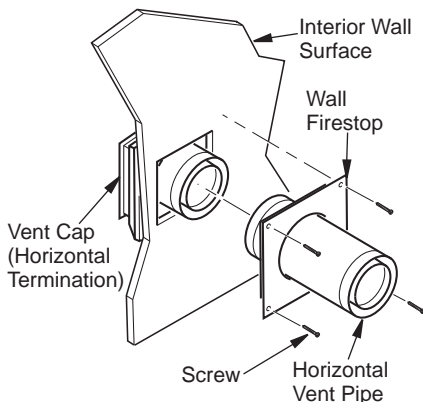

Figure 12 - Connecting Vent Cap with Horizontal Vent Pipe
- Connecting Vent Cap with Horizontal Vent Pipe:** Slide wall firestop over vent pipe before connecting horizontal run to vent cap (see Figure 12).